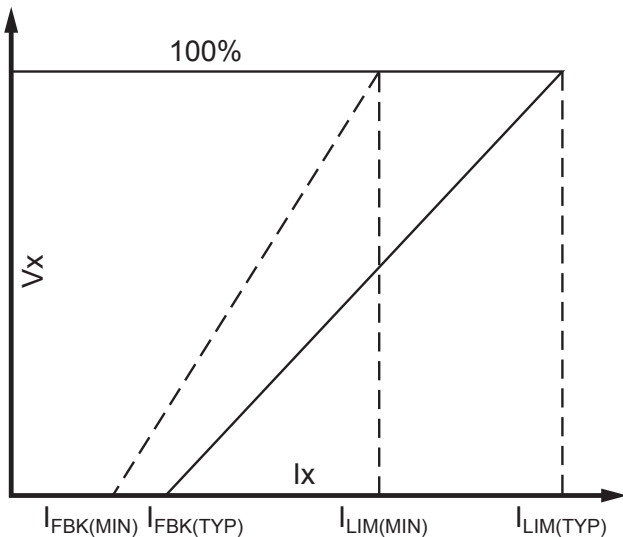

Figure 6: Typical LDO foldback characteristics
2. Current limit with foldback short-circuit protection; see Figure 6